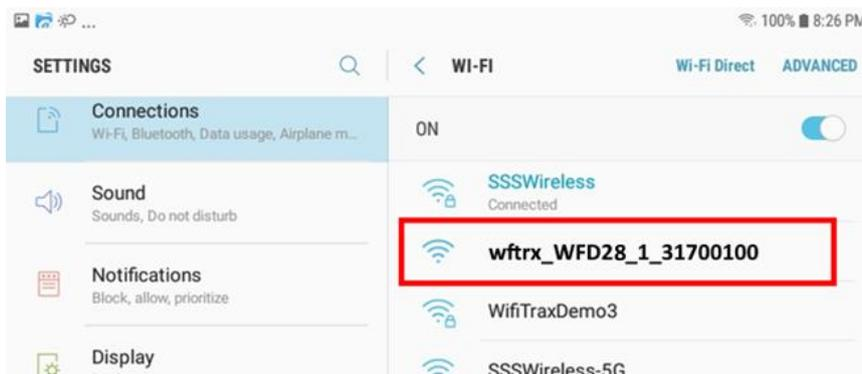
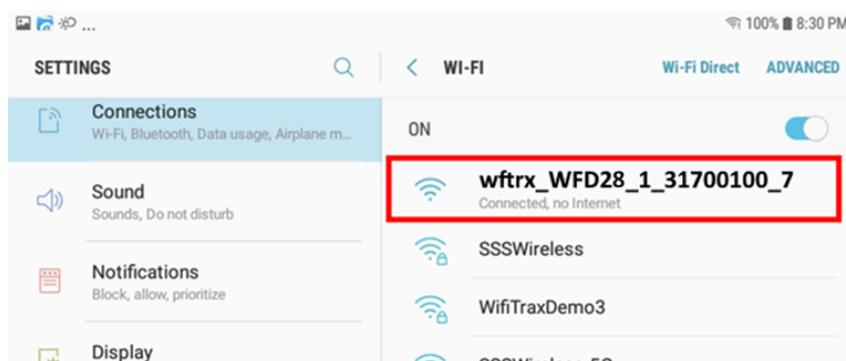

Figure 18 WFD-28 Wi-Fi Access Point is visible
Figure 19 Connected to the WFD-28 Wi-Fi Access Point
- (6) You now see a collection of available Wi-Fi Access Points. Look for one that is of the form `wftrx_WFD2X_1_XXXXXXXX_7`, where `XXXXXXXX` is the serial number of your unit that appears on its bag and the unit itself, like Figure 18. Tap that Wi-Fi Access Point – no password is required – and wait for it to connect. You will not be able to access the internet while you are connected to the Wi-Fi access point of the WFD-2X but consult the manual later to see how you can put everything on your home network. After a few moments the Access point should show “Connected, no internet” as Figure 19